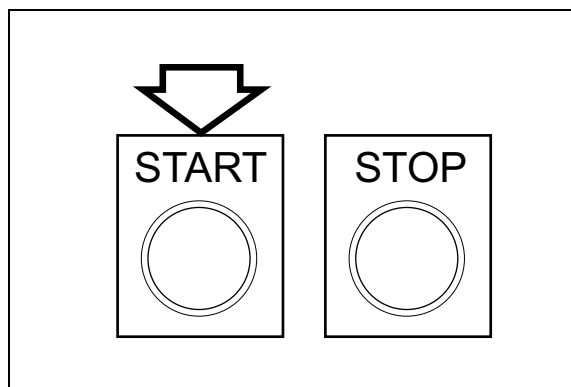

Figure 8-4: Start Push-button
5. Press the START push-button (Figure 8-4). The START push-button lights indicating that all safeties and power are ready.